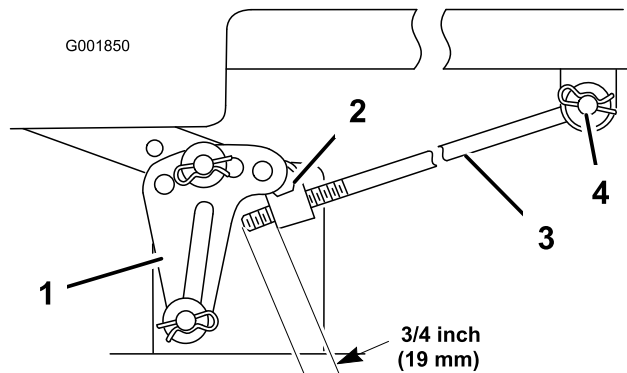

Figure 53
5. Measure the length of the rod extending out of the adjusting block on the sides of the chassis (Figure 53).
6. If the rod length is **not** a 3/4 inch (19 mm), remove the hairpin cotter and washer from the end of the adjusting rod (Figure 53) and turn the rod until the 3/4 inch (19 mm) dimension is obtained.